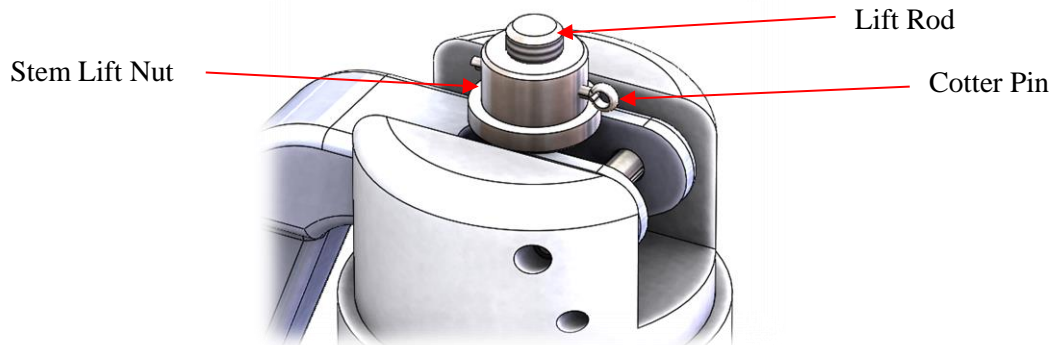

Figure 13: Upper Portion of Lift Lever Cap
2. Bend straight and pull out the cotter pin. See Figure 13. Set it aside.
3. Unscrew and remove the stem lift nut. See Figure 13.